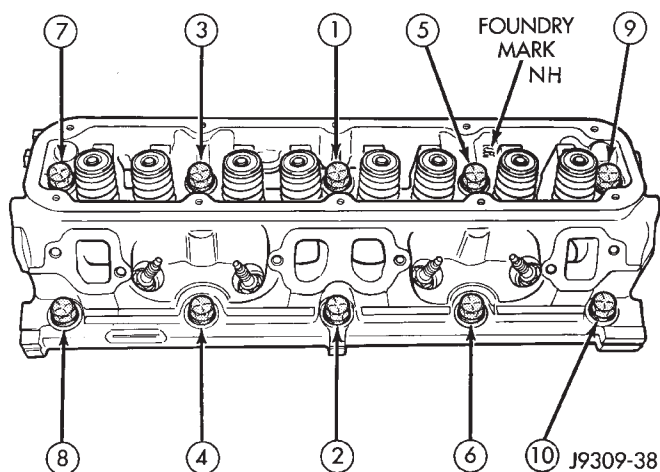

Fig. 24 Cylinder Head Bolt Tightening Sequence
(1) Position the new cylinder head gaskets onto the cylinder block.
(2) Position the cylinder heads onto head gaskets and cylinder block.
(3) Starting at top center, tighten all cylinder head bolts, in sequence, to 68 N·m (50 ft. lbs.) torque (Fig. 24). Repeat procedure, tighten all cylinder head bolts to 143 N·m (105 ft. lbs.) torque. Repeat procedure to confirm that all bolts are at 143 N·m (105 ft. lbs.) torque.